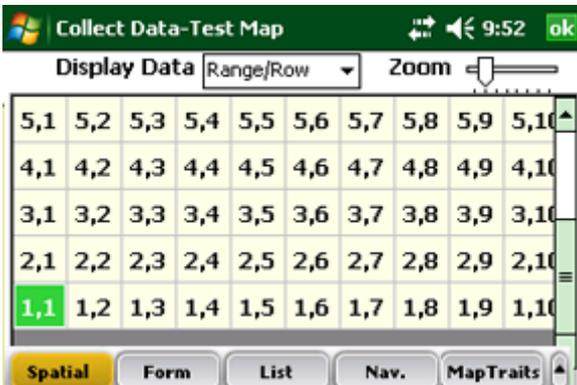

Figure 5-3: Row 1, Range 5 is selected in the Collect Data Spatial screen
8. Choose the starting plot location by tapping on the cell. In Figure 5-3, the selected cell is Range 1, Row 1. After